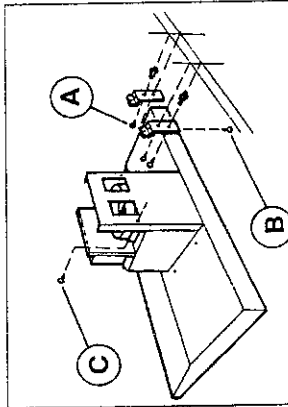

FIG. 1
- Wall fitting: Using the drilling mask, fit the brackets to the wall with the screws and plugs supplied. Hook the hood on by the rectangular slots in the rear of the apparatus (Fig.1). As the hooking slots are larger than the brackets, adjust the horizontal position of the apparatus by moving it to the left or right as required to align it with the wall cupboards. The height of the apparatus is regulated by adjusting the bracket regulation screws (Fig.1B). The depth is regulated by adjusting the depth regulation screws (Fig.1A). To obtain maximum stability and safety, secure the apparatus to the wall through the holes drilled in the casing for this purpose (Fig.1C).